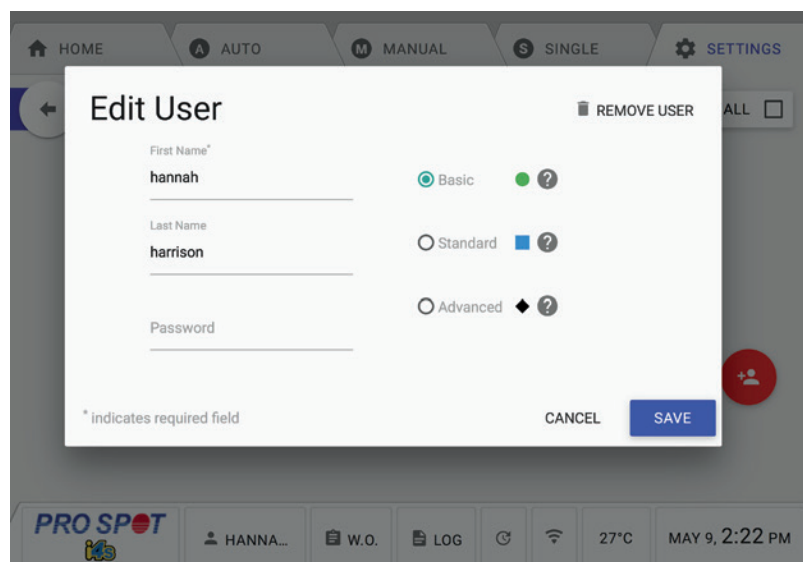

Figure 4.35
2. The Edit User Menu will pop up (Figure 4.35), where you can edit or remove the profile.